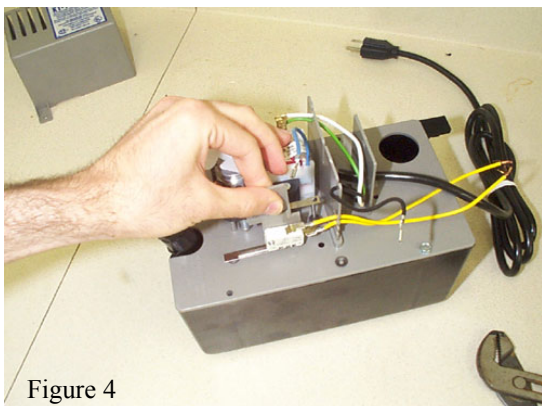

Figure 4
6. With all electrical connections and top tinerman removed, grasp the switch tree and remove from the pump. See figure 4.